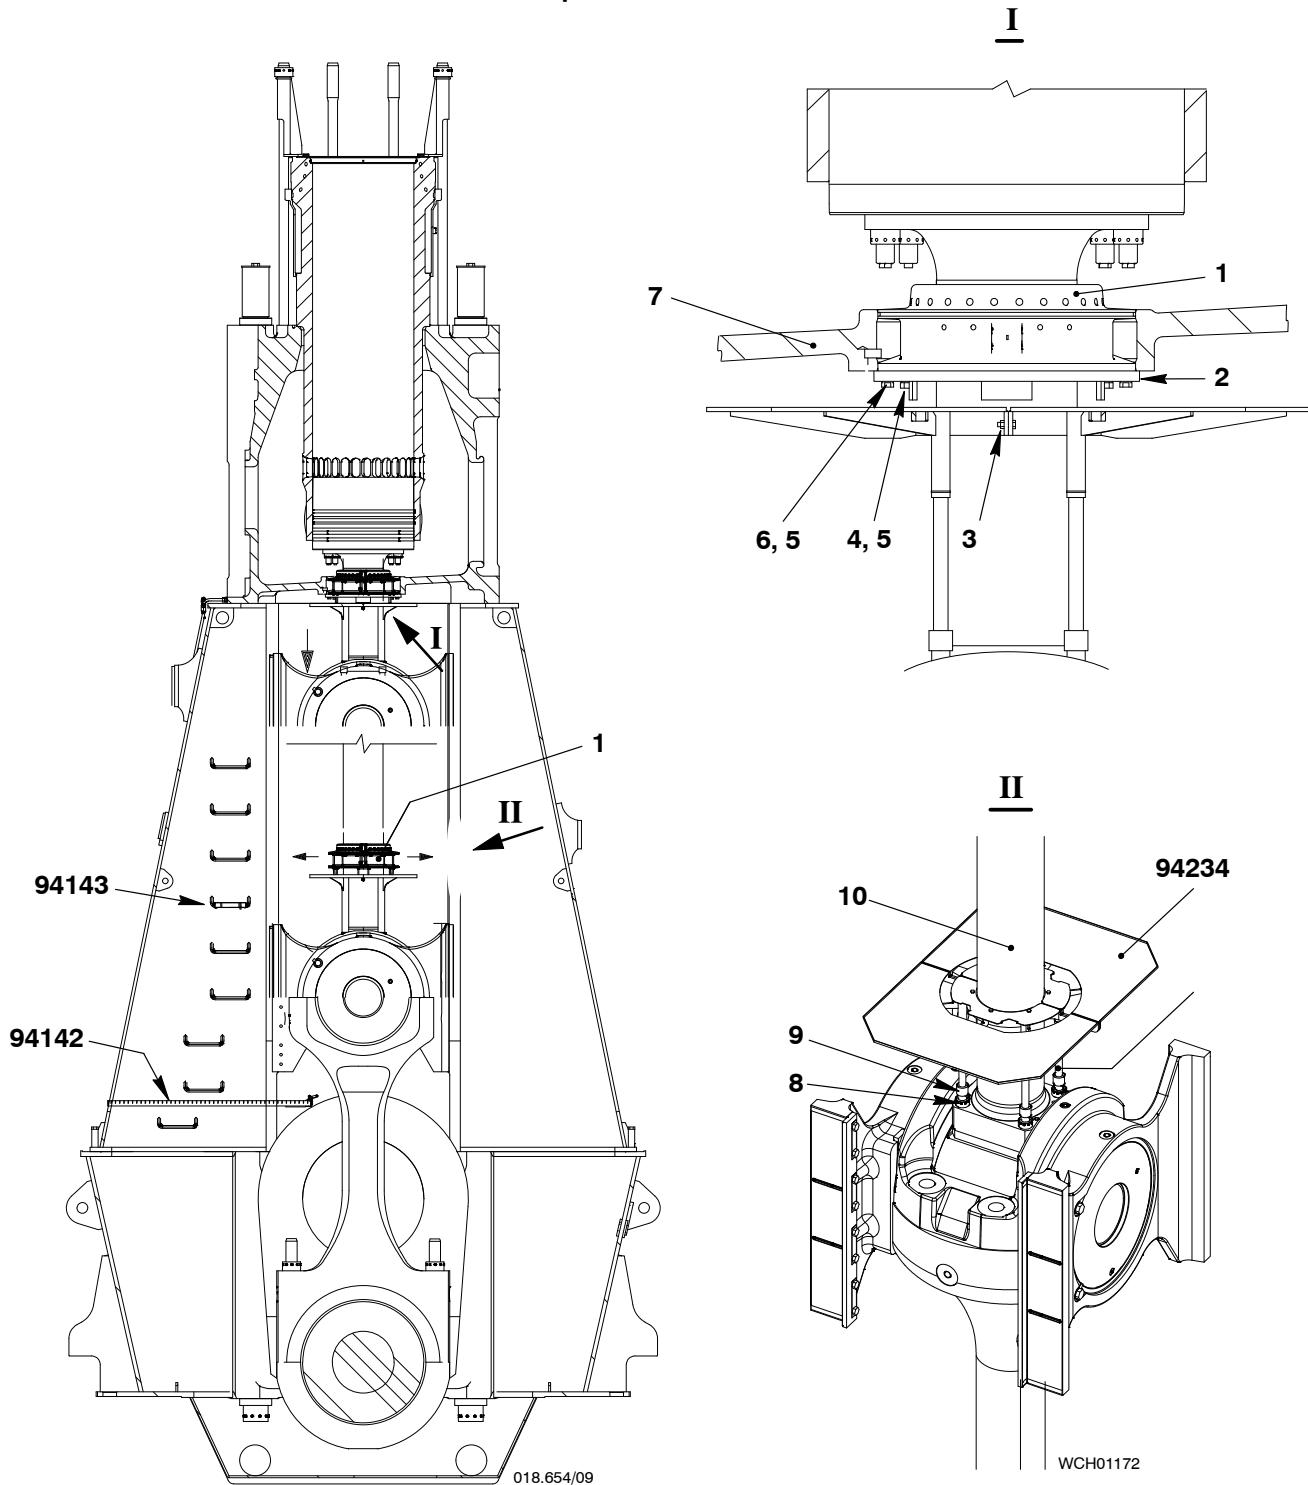

Fig. 9
- 2) Attach the platform (94234, Fig. 9) to the elastic studs (2) and the piston rod (3).
- 1) Make sure that the piston rod gland (1, Fig. 9) and the spring dowel pin are in the correct position.
- 2) Apply oil to the inner bolts (4).
- 3) Put new locking plates (5) and the inner bolts (4) in position.
- 4) Torque the inner bolts (4) to 150 Nm.
- 5) Bend the locking plates (5) to lock the inner bolts (4).
- 7) Use the turning gear to carefully move the piston to TDC until the piston rod gland is in the correct position in the cylinder jacket (3).
- 8) Apply oil to the outer bolts (6, Fig. 9).
- 9) Put new locking plates (5) and the outer bolts (6) in position.
- 10) Torque the outer bolts (6) to 150 Nm.
- 11) Bend the locking plates (5) to lock the outer bolts (6).